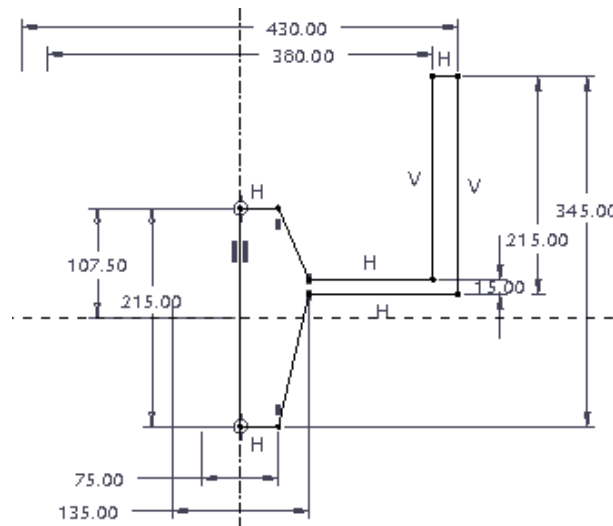

Figure 3-29 Sketch with dimensions and constraints
4. After closing the **References** dialog box, draw the sketch of the cross-section, dimension it, and then modify the dimensions, as shown in Figure 3-29.